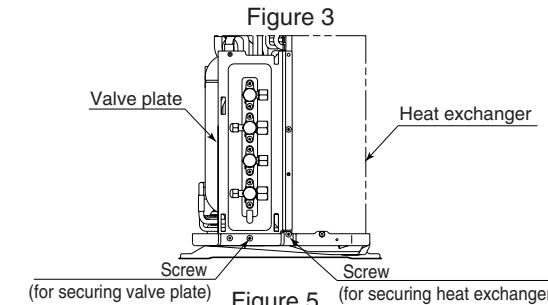

Figure 5
- Remove the securing screws of the heat exchanger (one screw each on left and right) and the valve plate (one screw) to the base (refer to figure 5).